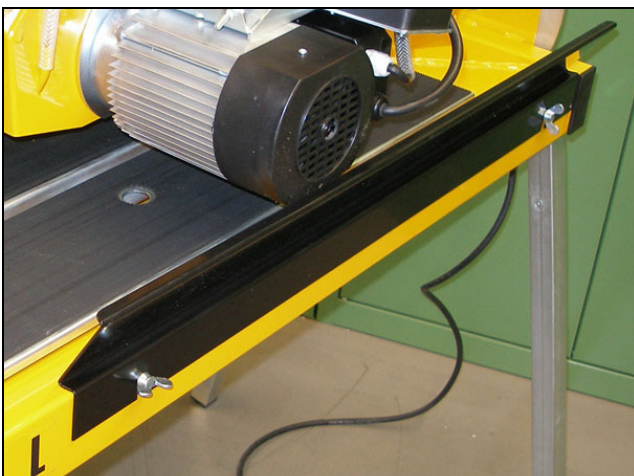

Fig. 3.6 Lateral splash guard mounted
- Mount the lateral splash-guard with the wing screws (washers) onto the frame (Fig. 3.6).